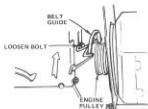

FIGURE 30
- Loosen (do not remove) two Engine Pulley Belt Guide Bolts and swing R.H. side of Belt Guide up. Tighten L.H. Bolt to hold Belt Guide in position (Fig. 30).